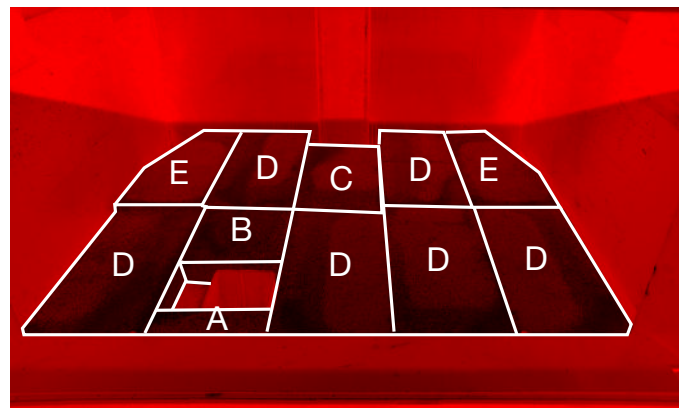

Figure 16: Floor bricks completed.
2. On units with an ash dump, place 4 "D" bricks along the front row; 3 bricks on one side of the ash dump and 1 brick on the other side. Use the "A" and "B" bricks to fill in the area around the ash dump (Figure 16).